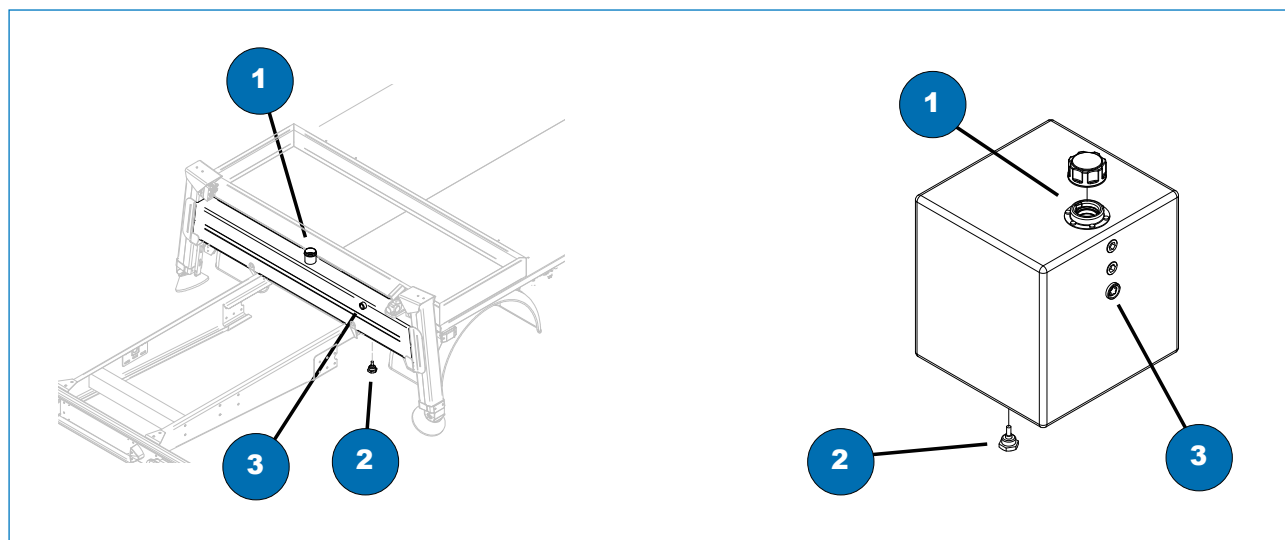

Fig. 8.2
Before use, visually check the level of the hydraulic oil by using the indicator on the tank (Fig. 8.2, 3). The level should be at the centre of the indicator. If necessary, remove the filler cap and top it up. (Fig. 8.2, 1).
Change the hydraulic oil every 1000 hours, or at least one a year. At the same time, replace the hydraulic oil filters. To replace it, get a suitable, large-enough receptacle or receptacles (see Section 3.6.1) and drain the used oil by loosening the drainage cap (Fig. 8.2, 2) found under the tank. Close the drain plug and refill the tank.
- top up the hydraulic oil tank (Fig. 8.2, 3) and check the level on the special indicator (Fig. 8.2, 1).